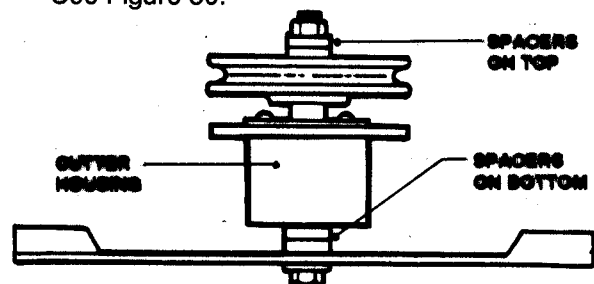

FIGURE 30
- To change cutting height of blades, move the Spacers from under the Cutter Housing to above the Cutter Pulley. (Each Spacer moved will give an additional 1/4" of cutting height. See Figure 30.